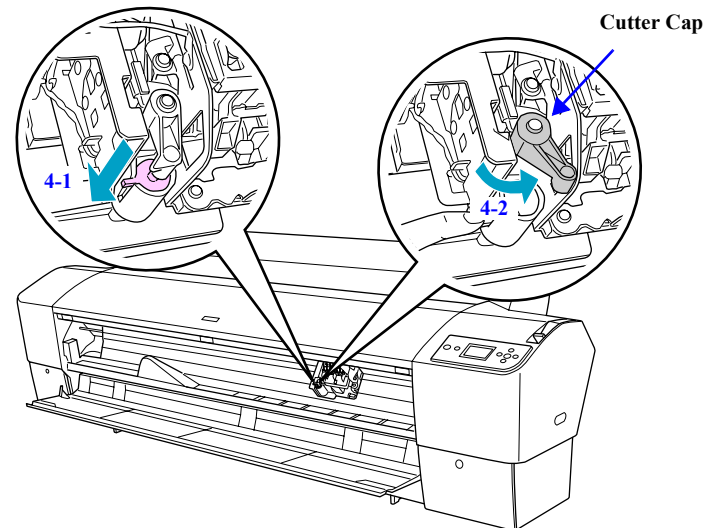

Figure 4-10. Removing the Cutter (1)
4. Press down the boss on the Cutter lightly and turn the Cutter Cap clockwise. *See Figure 4-10.*